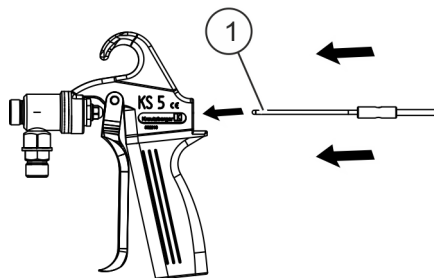

Fig. 27: Insert complete valve needle into the main element
6.  Insert the complete valve needle (Fig. 27/1) from the back into the main element and push forward up to the stop.